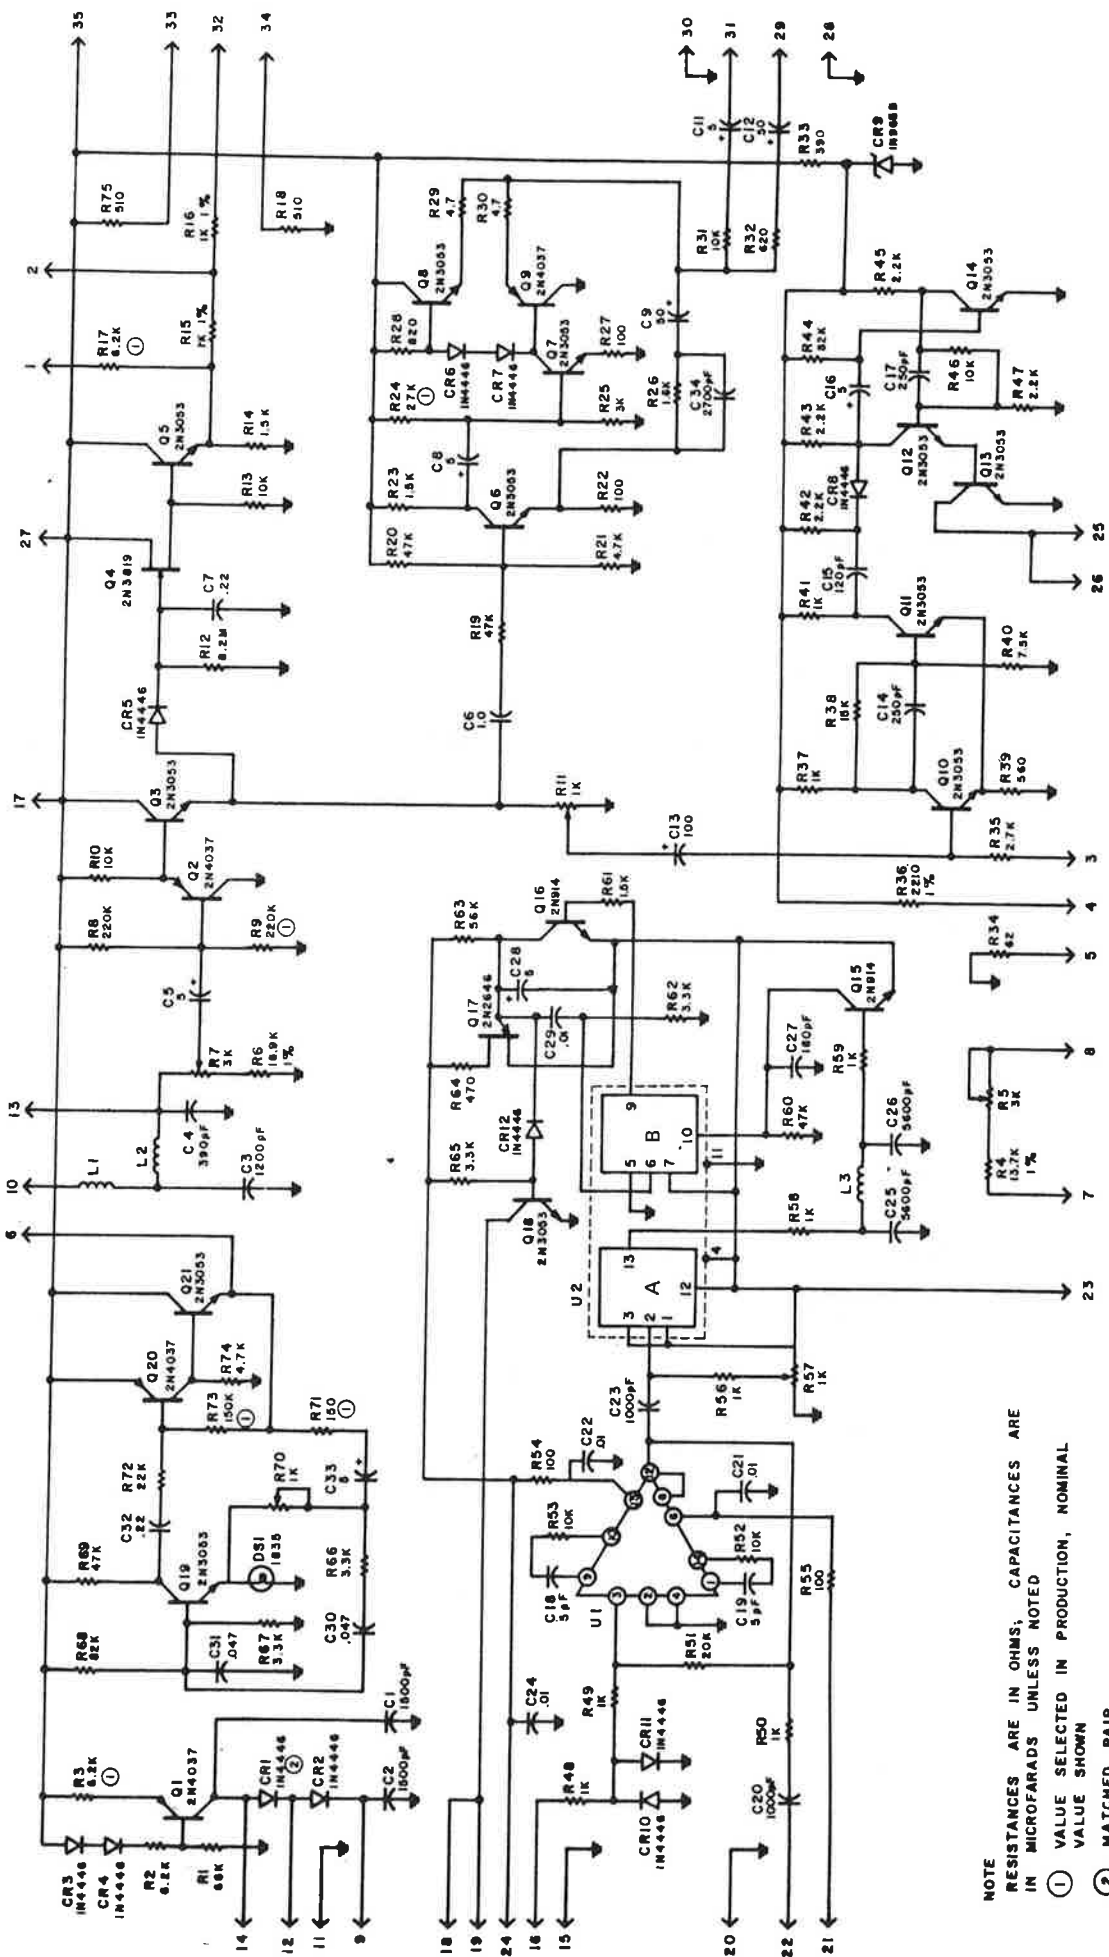

Fig. 14. Modulation Measurement Schematic. (A2 Card)
b. If pointer of MODULATION meter M1 moves upscale, but pointer of CARRIER LEVEL meter M2 fails to move, verify that REMOTE METER switch S8 is released (out), and check continuity of S5 by looking for the calibrating signal at pin 12 (Fig. 14). If correct deflection of CARRIER LEVEL meter M2 is still not obtained, check CARRIER LEVEL meter circuit continuity as follows:
c. Disconnect AC line cord, remove top cover of monitor and locate pin 13 of Mod Measurement Assembly (See Fig. 14). Remove white wire from pin 13 and measure resistance between end of white wire and chassis ground. Measured resistance should be approximately 20 K ohms. Isolation of an observed discontinuity may be made with assistance of Chassis Wiring Diagram (Fig. 13) and the schematic of the Mod Measurement Assembly (Fig. 14). After repairing discontinuity, replace white wire on pin 13.
c. If the MODULATION meter indicator tracks MOD ZERO potentiometer, but cannot be adjusted on both sides of zero, FET Q9 (Fig. 14) and resistor R9 must be rematched.
a. If the CARRIER LEVEL indication cannot be adjusted to 100%, check calibration oscillator waveform and amplitude at pin 6 (See Fig. 14). Adjust R70 as required. If correct adjustment is still not obtained, follow procedure in Paragraphs a. and b. of "Carrier Level" check.
b. If CARRIER LEVEL will indicate 100%, but MODULATION meter does not indicate 100%, make +OPR test using steady 1 kHz test tone to modulate carrier 100% (as observed on scope using expanded amplitude scale). Adjust R7 (Fig. 14) as required to obtain reading of 100%. If correct reading cannot be obtained, check S7 and CR2. Make -OPR check. If indication of approximately 100% is not obtained, replace CR1. Repeat "Modulation Meter" calibration check.
a. If PEAK FLASHER DS1 will not light, adjust CARRIER LEVEL potentiometer R1 fully CW so that indicated modulation is greater than 100%. Adjust PEAK FLASHER potentiometer R7 fully CCW. If PEAK FLASHER DS1 still does not light, check bulb and operation of lamp driver by attaching a 1 K resistor to TB1-11 and a milliammeter between free end of the resistor and TB1-9. A non-zero (approximately 28 mA) current indicates the lamp driver is on. Check continuity of PEAK FLASHER circuit Q13 (Fig. 14) and continuity of PEAK FLASHER potentiometer circuit.